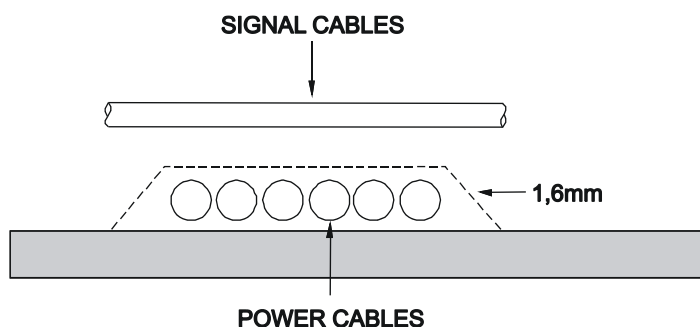

Fig. 9.10 – Arrangements of the non-shielded cables on the tray
- 3) Cross the power cables and the signal as illustrated on figure 9.10.
When using non-shielded cables, it is recommended to use a 1.6mm thick iron board between the signal and power cables as indicated in figure 9.10